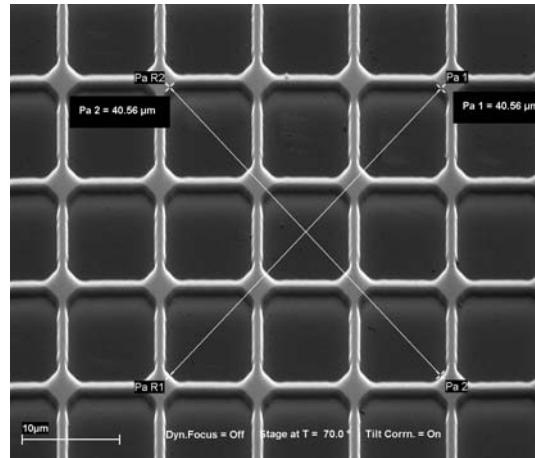

Fig. 3: Undistorted geometry at 70° tilt. Tilt correction on, dynamic focus not used!
- Precise scan control and calculated compensation for tilt correction combined with dynamic focus gives distortion free imaging, see fig.3